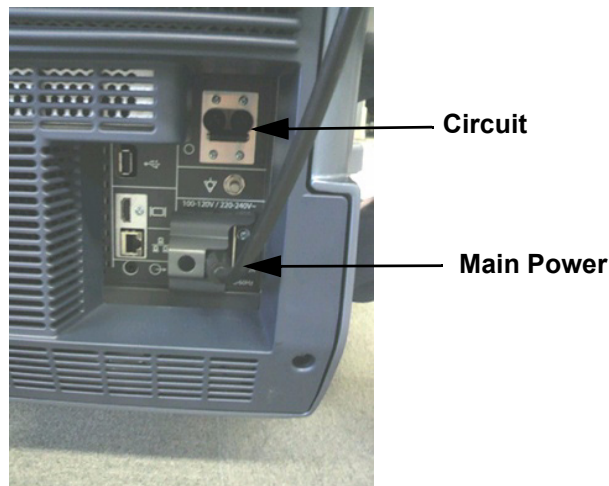

Figure 3-10 Circuit and main power cable at rear of system
- 2.) Connect the Color printer according to correct connection scheme as described in Figure 3-10 on page 3-16.